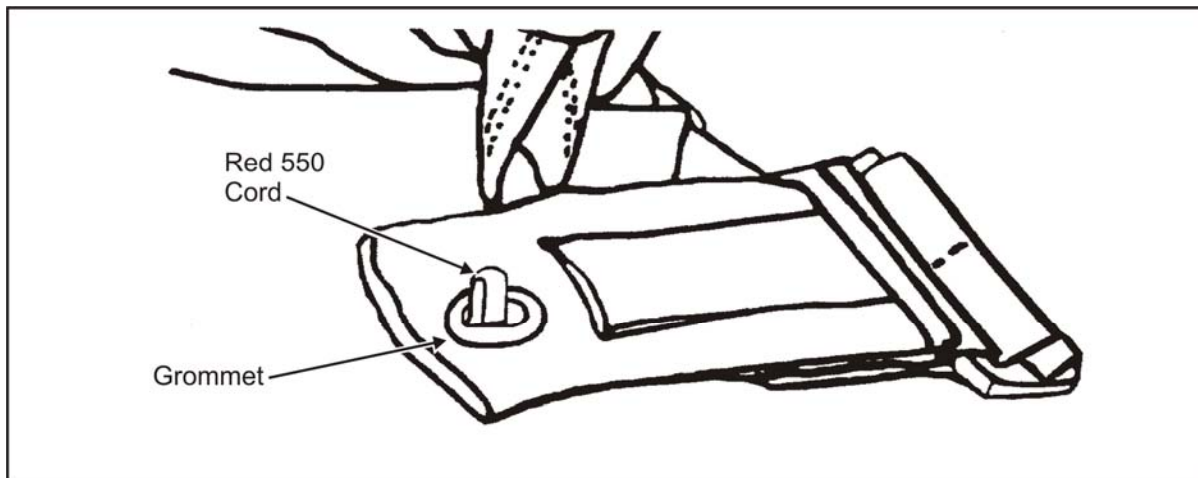

Figure 5-23. Inserting the Red 550 Cord Through the Grommet
- Pulls the red 550 cord through the grommet of the leg strap (Figure 5-23, page 5-22).